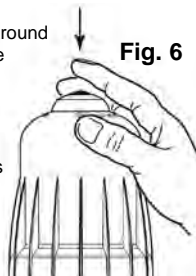

Fig. 6
- Press the bleed button on the top of the DOSATRON (Fig. 6).